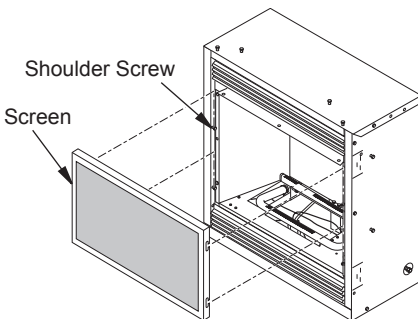

Figure 3 - Removing and Installing Screen
1. **Models with one-piece screen only:** Lift fireplace screen up and pull out to remove (see Figure 3). Set screen aside until installation has been completed.